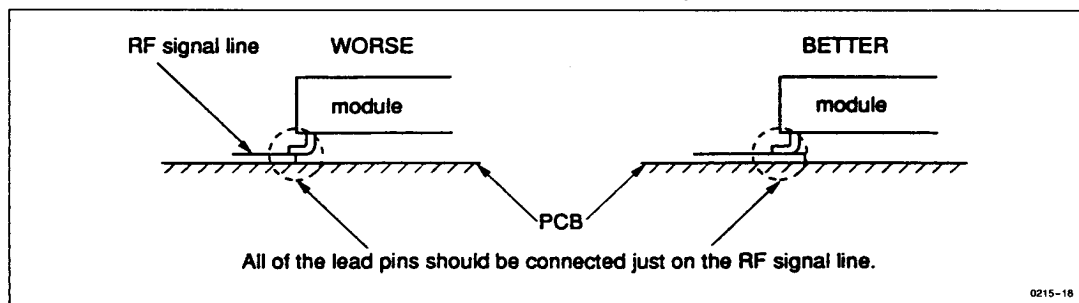

Figure 17
6. To avoid the degradation of efficiency and output power, lead pins should not be float from PCB, and connected just on the RF signal line. (Refer to Figure 17.)